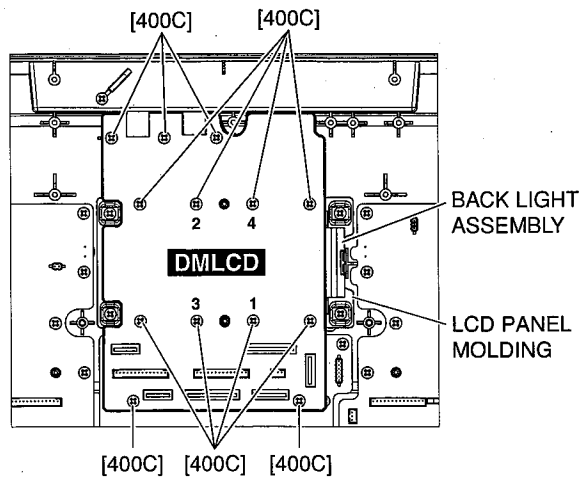

Fig. 3
- 4-3. Remove the thirteen (13) screws marked [400C]. The DMLCD circuit board can then be removed. (Fig. 3)
* **When installing the DMLCD circuit board, first tighten the screws in the order of 1 through 4 and then the remaining screws. (Fig. 3)**